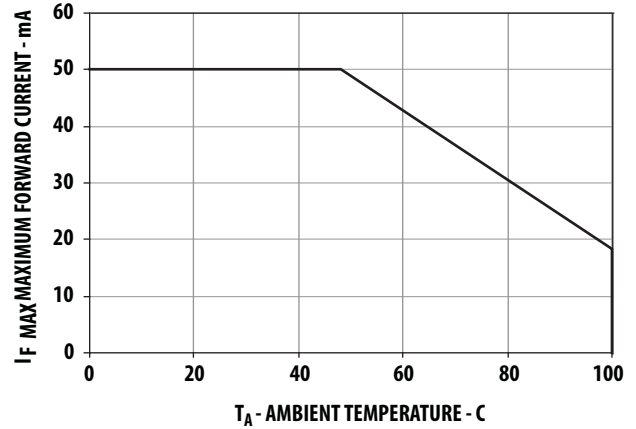

Figure 4. Maximum Forward Current vs Ambient Temperature
2. Derate linearly as shown in Figure 4.